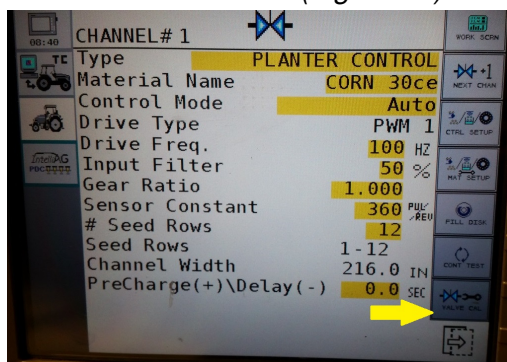

Figure 45
Step 4. Select **Valve CAL** from icons on right hand side of VT. (Figure 45)